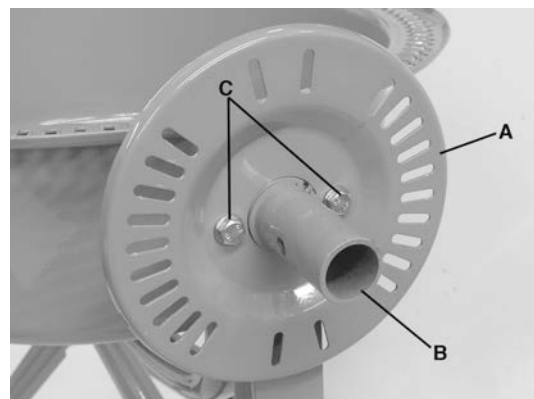

FIGURE 7
1. Install the tilting lever angle control plate (A) Fig.7 to the support bracket shaft (B) using 2 short hex. bolts, washers and spring washers (C).